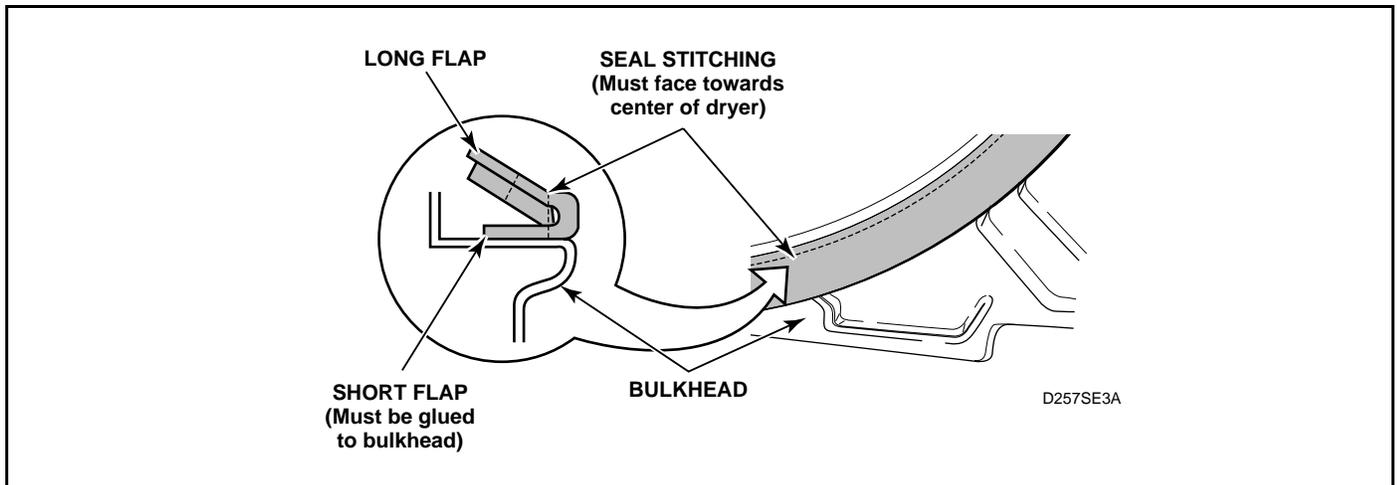

Figure 49
i. Front Cylinder Seal (*Figure 49*)
- (1) The stitching on the seal must face towards the dryer center. See *Figure 49*.
- (2) The short flap, shown in *Figure 49*, must be glued to the bulkhead and the long flap left loose.